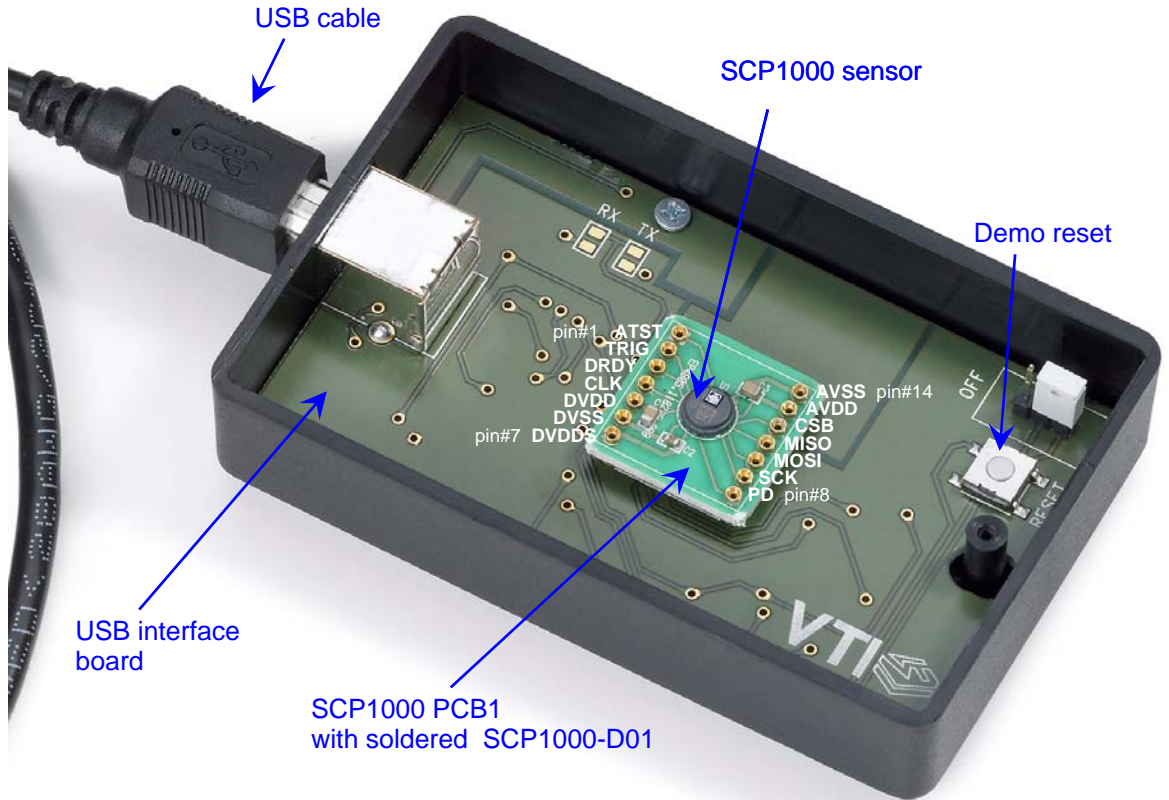

Figure 1. SCP1000 DEMO KIT USB interface board and SCP1000 PCB.
- SCP1000-D01 sensor soldered on chip carrier PCB (see Figure 1 on next page)
- USB interface card inside the demo box (see Figure 1 on next page)
The SCP1000 DEMO KIT USB interface board and SCP1000 PCB are shown in Figure 1. The USB interface card converts the USB interface to SPI or TWI interface. The SCP1000 pressure sensor is soldered on chip carrier PCB which is connected to interface board with board to board connectors.